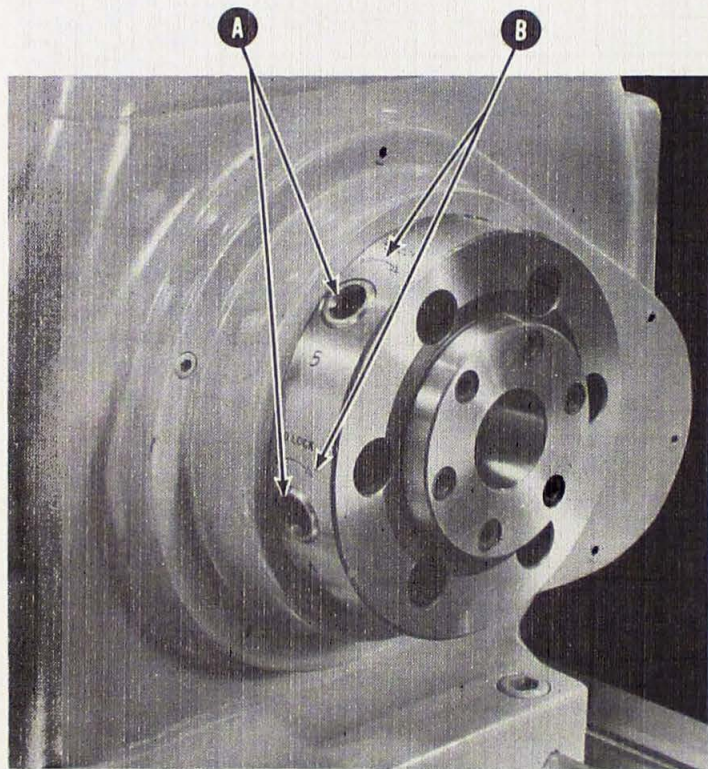

FIGURE 11
There are six camlocks in the spindle nose. Two of them, (A) Figure 11, clearly show in the illustration. The small indicating line on camlocks (A) indicates that they are in the unlocked position because these lines are parallel with the spindle face. Arrows (B) show the direction in which the camlocks should be rotated for tightening. When this is done, it is important that the camlocks be tightened evenly. Do this gradually, rotating the spindle from one to the other until all the locks are tight.